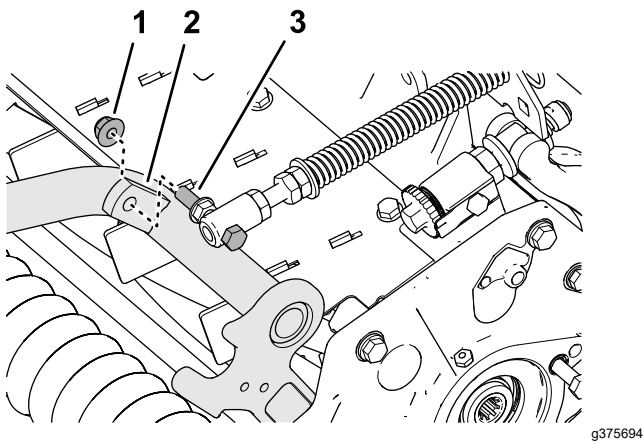

Figure 13
4. Assemble the capscrew of the turf compensation spring to the right tab of the carrier frame (Figure 13) with the flange locknut (3/8 inch).